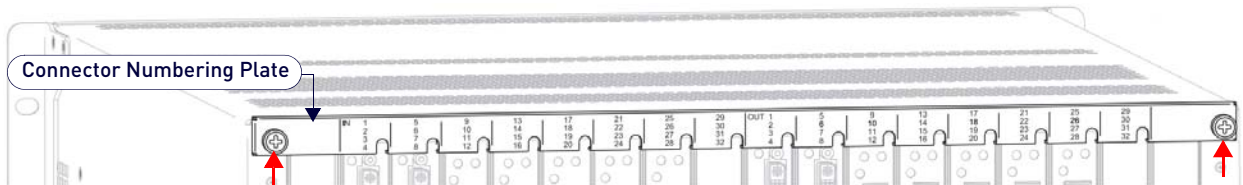

FIG. 129 Connector Numbering Plate (DGX 3200)
2. **Enova DGX 3200 only** – Loosen the captive screw on each end of the connector numbering plate above the boards (FIG. 129), and set the plate aside.